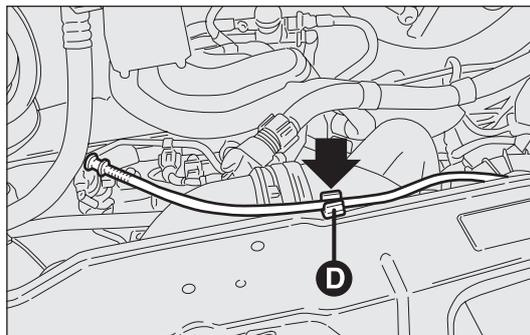
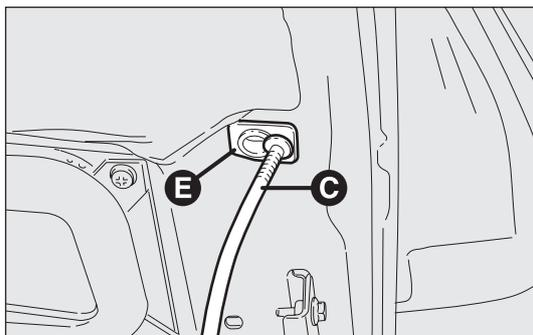

fig. 125
fig. 126
- lift the bonnet and, at the same time, release the bonnet stay fig. 125 from its locking device D, then insert the end C-fig. 126 of the stay into the bonnet housing E.
- ❑ hold the bonnet up with one hand and with the other remove the rod C-fig. 126 from the housing E and fit it back into its locking device D-fig. 125;